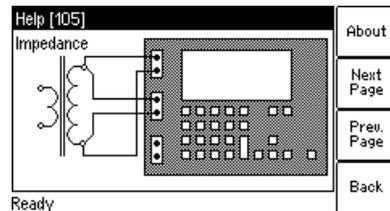

Figure 8-16 Wiring example for resistance measurement
1. Connect the "Output" sockets and input "Sec" of the *CT Analyzer* to the winding to be measured (see Figure 8-16).